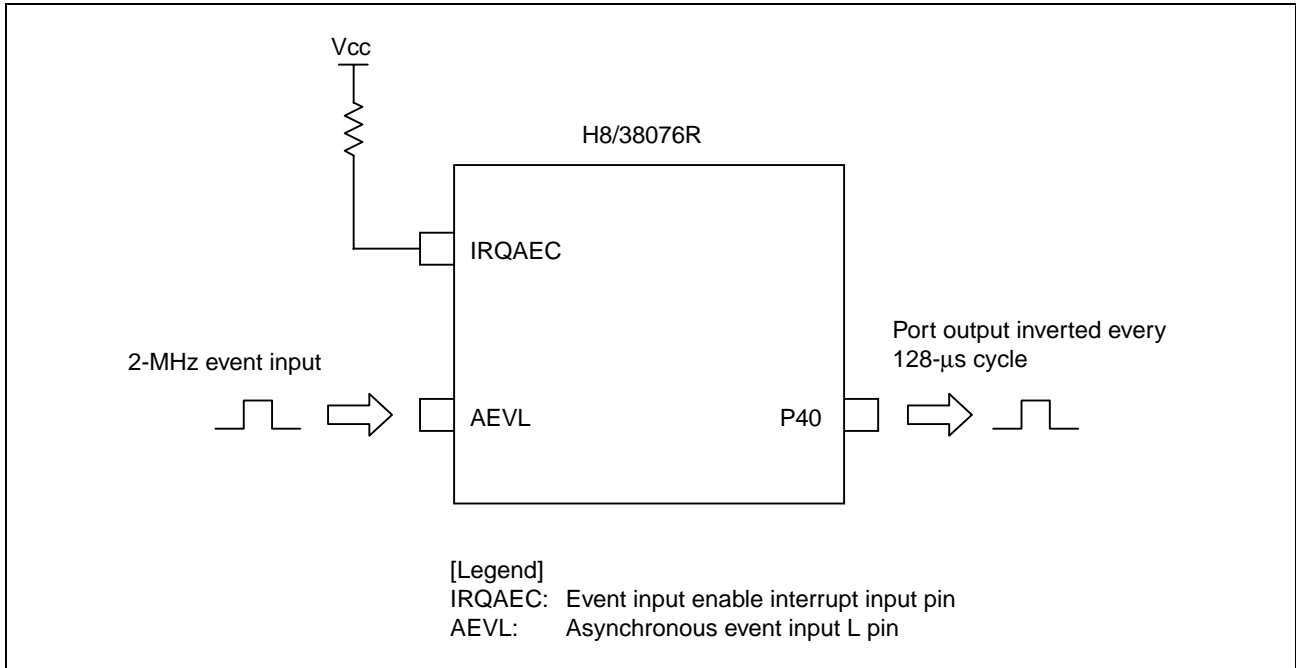

Figure 1 Example of Event Counter Operation in the 8-Bit Mode
- The asynchronous event counter is used in the 8-bit mode to invert the P40 pin output every fixed cycle (128 μ s), as shown in figure 1.